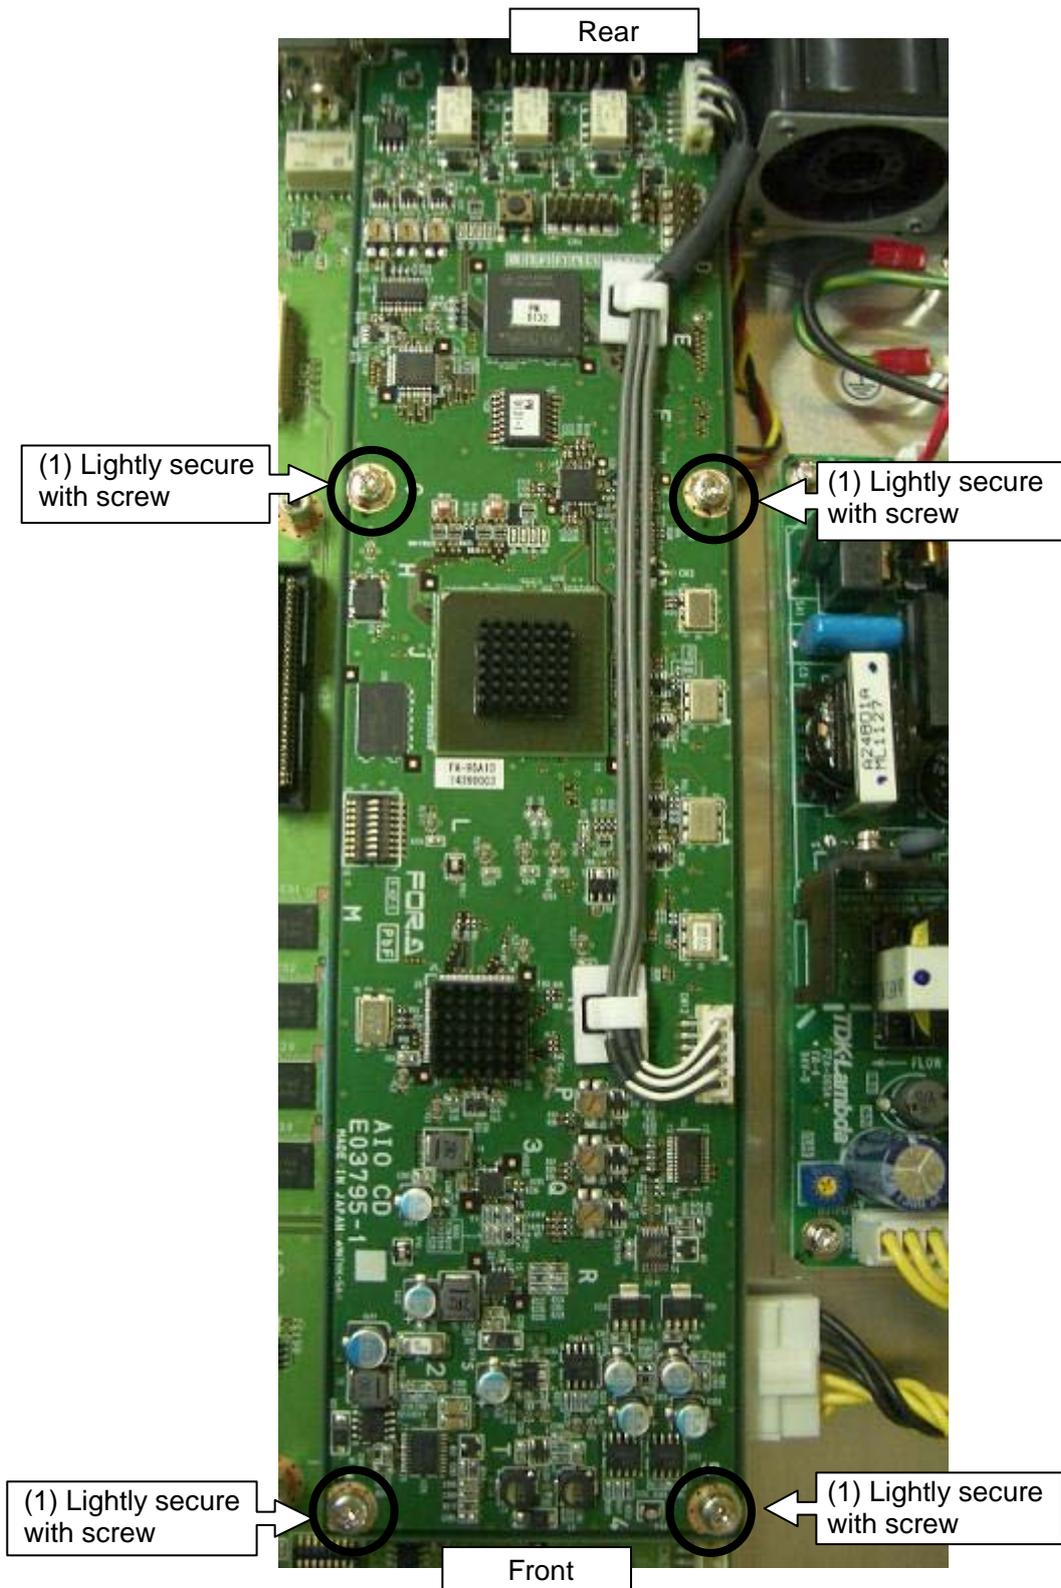
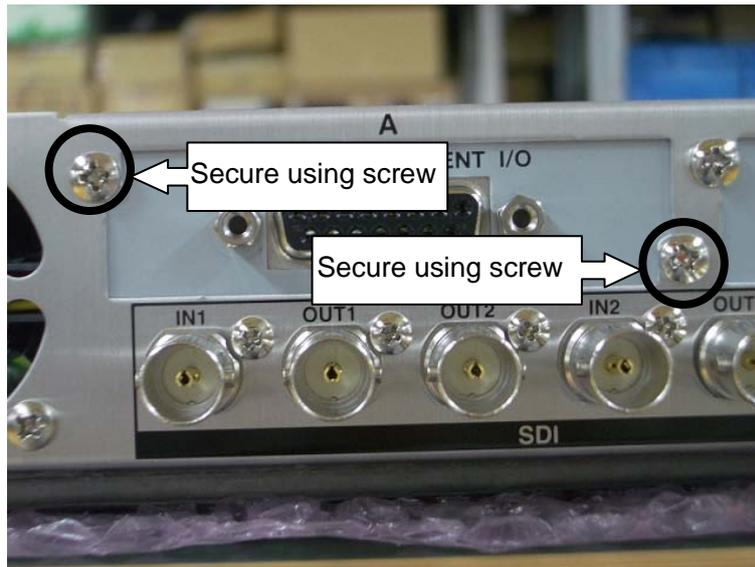

Fig. 31 FA-95AIO card installation
Fig. 32 Attachment to rear panel
7. Nest the connector on the option card into the slot, align the screw holes, then lightly secure the card with the supplied screws (Fig. 31 (1)). Secure the option card to the rear panel using the binding screws removed in step 2 (Fig. 32). Tighten all screws (Fig. 31 (1)).